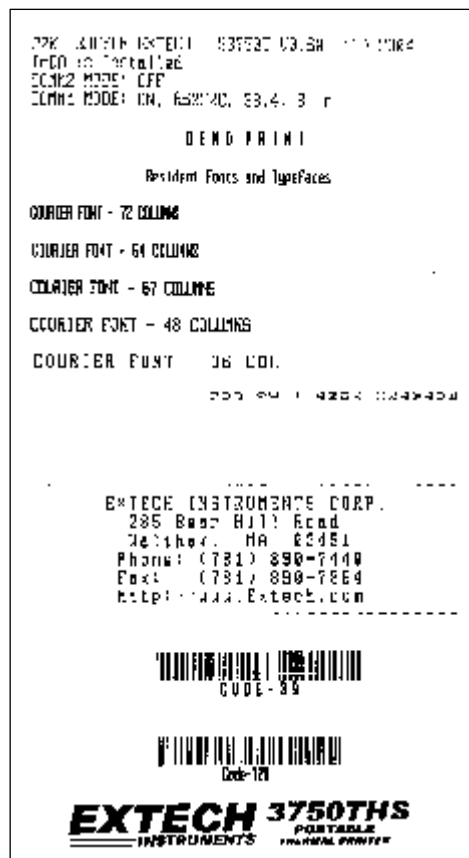

FIGURE 9: SAMPLE SELF TEST
- *The first few lines of self-test show the printer firmware version, the current printer settings (for example IrDA or Serial mode) and a list of any optional or special features installed. Figure 9 shows a printing sample.*